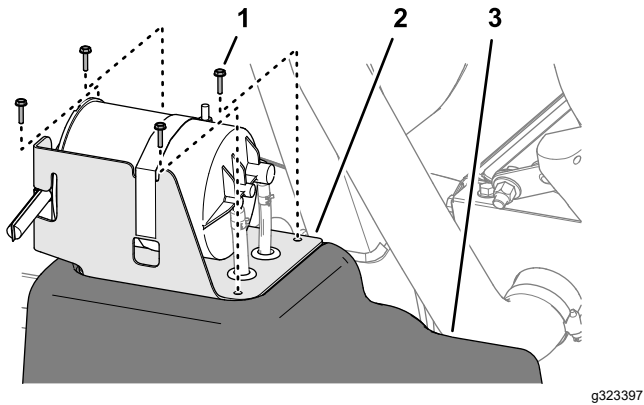

Figure 125
5. Align the holes in the carbon-canister bracket with the holes in the fuel tank (Figure 125).
6. Assemble the bracket to the tank (Figure 125) with the 4 screws (#10 x 3/4 inch).